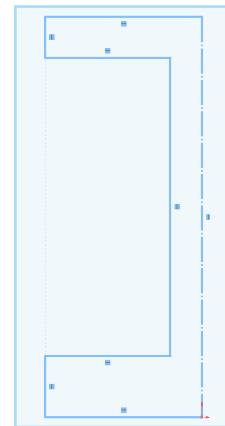

Fig. 4
Step 6. **Drag selection around the sketch** to select all lines, **Fig. 4**.